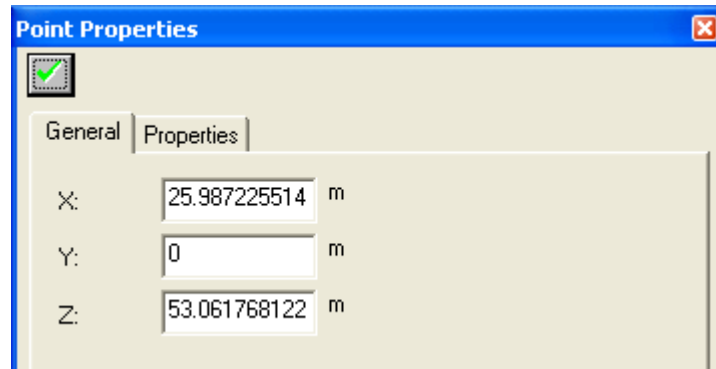

FIGURE 2.7-1 PROPERTY BOX OF A POINT
- To change the location of the point, double-click on the point to open its property box (**Fig. 2.7-1**). Edit the coordinates. Other drawing entities can be edited in a similar manner.